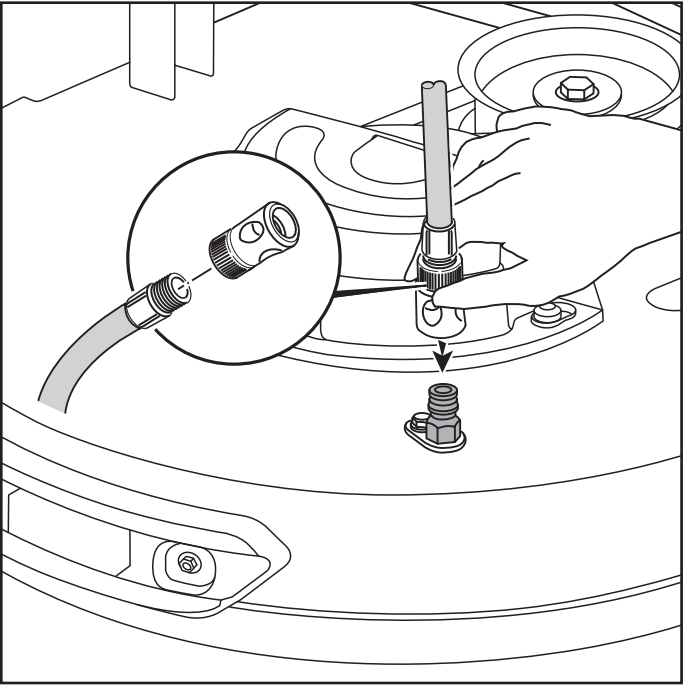

Fig. 24
6. Pull the Power Take Off switch (PTO) to engage the mower blades. The rotation of the blades and the water will clean the bottom of the mower deck.(Fig. 24)